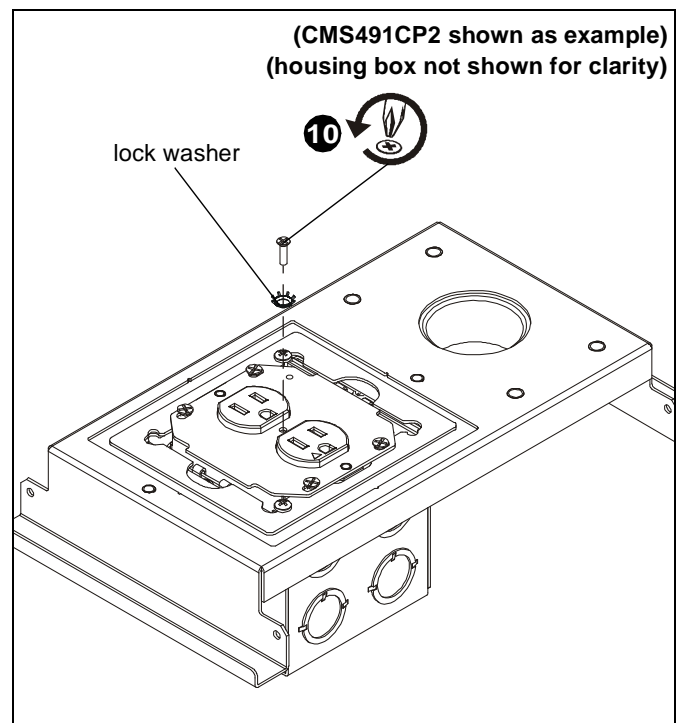

Figure 6
10. Remove 6-32 x 1/2" Phillips flat head screw and lock washer from front of EGX-SF2 box. (See Figure 6)